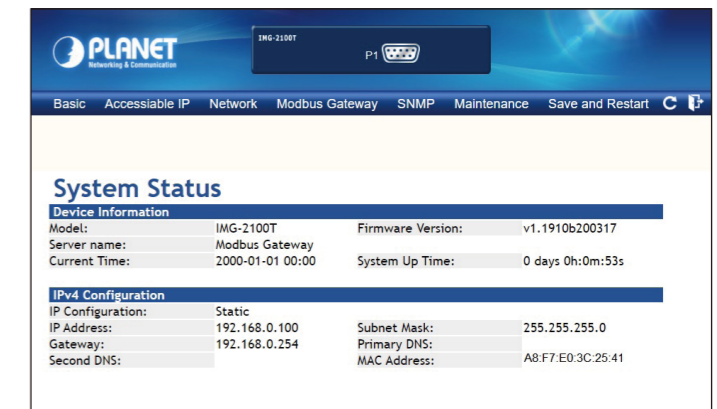

Figure 4-3: Web Main Screen of Industrial Modbus Gateway
- After entering the password, the main screen appears as shown in Figure 4-3.